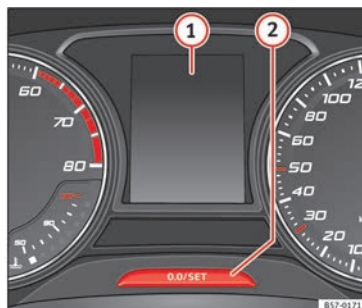

Fig. 48 Instrument panel
The service interval indication appears on the instrument panel display » Fig. 48 ①.
Press and hold the button **[0.0/SET]** for more than 5 seconds to consult the service message **» Fig. 48 ②**.
- Switch off the ignition, press and hold the button **[0.0/SET]** **» Fig. 48 ②**.